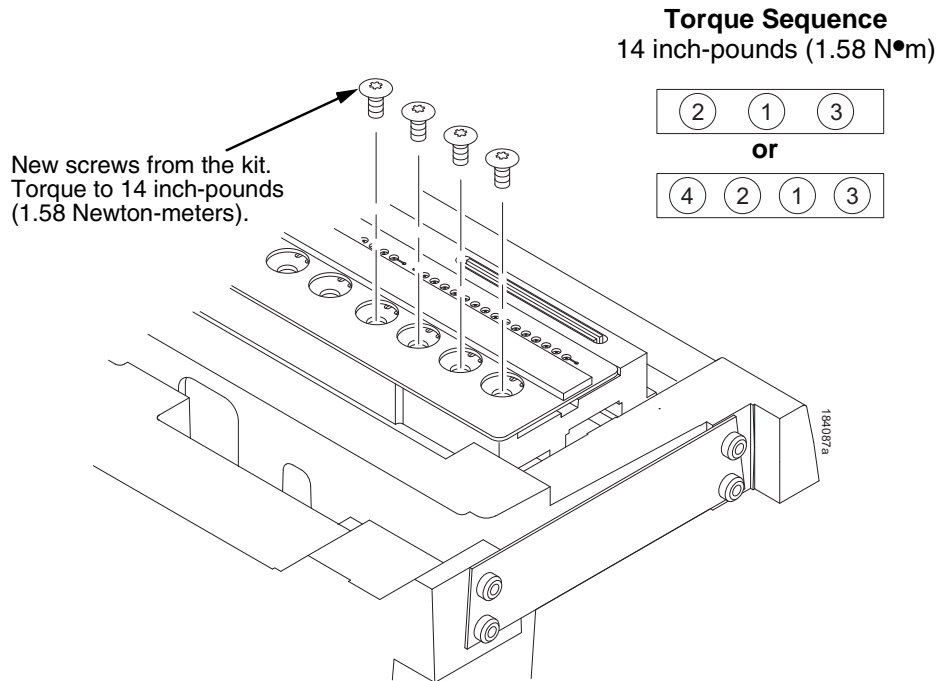

Figure 31. Installing the Torx T-10 Screws
6. Continue to apply a slight downward pressure on the tool and install the mounting screws in the hammer spring assemblies. Depending on the printer model, there will be three or four mounting screws per assembly. Torque the inner screw(s) to 14 in-lbs (1.58 N•m), then torque the outer screws to 14 in-lbs (1.58 N•m). (See Figure 31.)